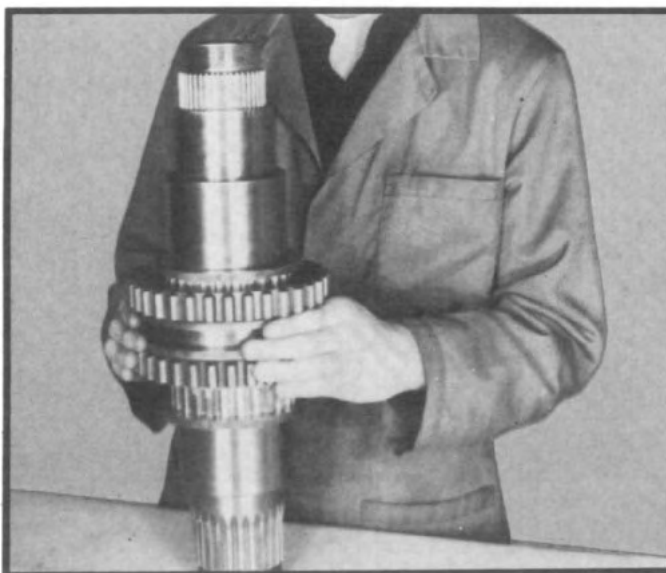

Fig. 74
3.23 If necessary to remove the needle bearing inner races and thrust rings from the shaft, place the shaft vertically on a table and tap the clutch gear on the thrust washer. This procedure will push the inner race off the shaft. Repeat this operation for the opposite side. (See fig. 74.)